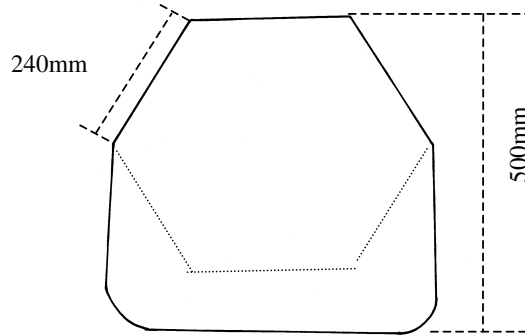

Fig. 7. Roof of hexagonal nest box, top view.
Step 5. Cut and fit roof (see Fig 7)